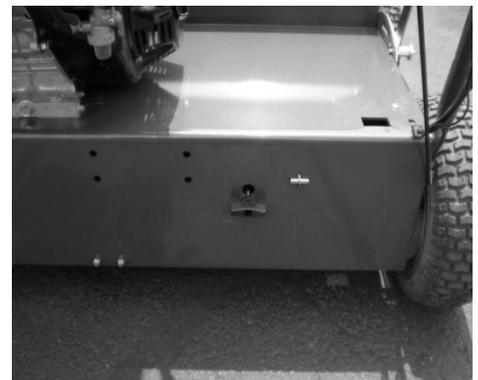

Figure 5.
- **Transmission engagement T-handle-** This must be inserted into the frame for the transmission to operate. If you want to manually push the unit, pull the t-handle out of the frame and down to lock into neutral/freewheel. See figure 5.